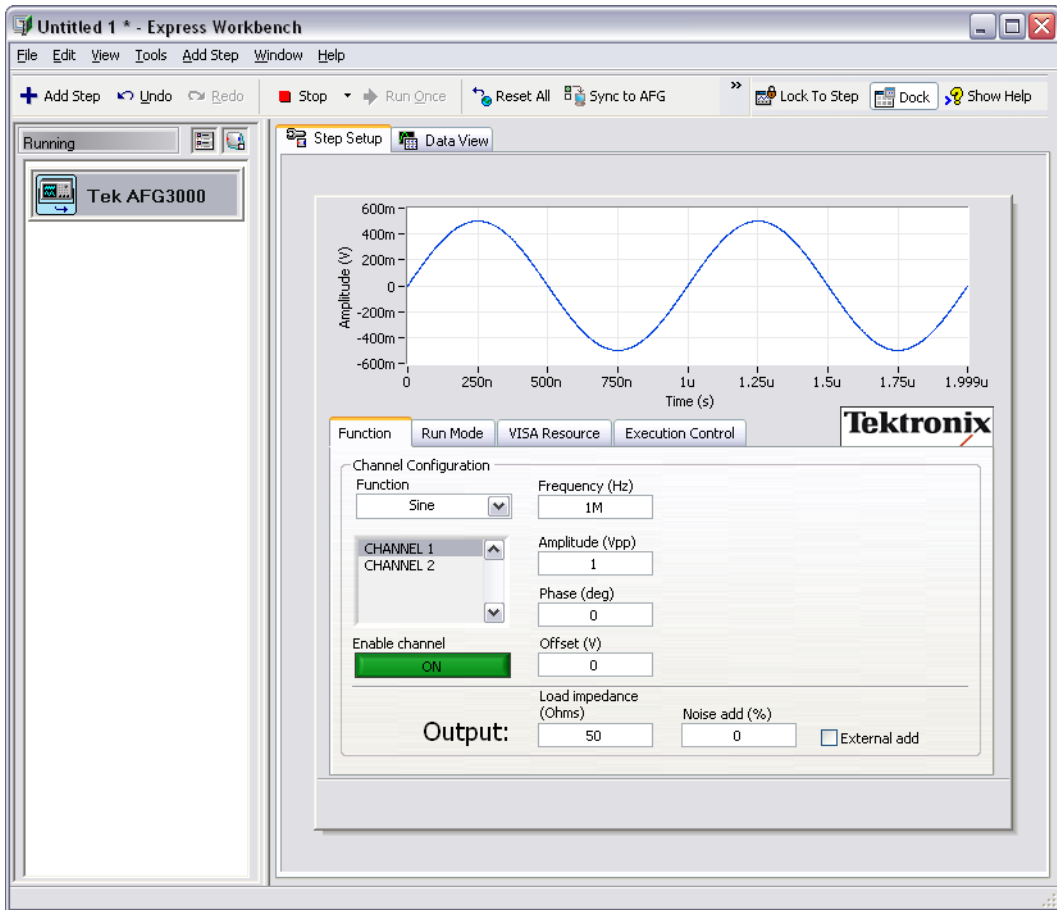

Figure 3-6. Live Acquisition from Tektronix AFG3000 Series Arbitrary/Function Generator
5. NI SignalExpress Tektronix Edition launches and provides a live connection to the Tektronix AFG3000 series arbitrary/function generator, as shown in Figure 3-6.